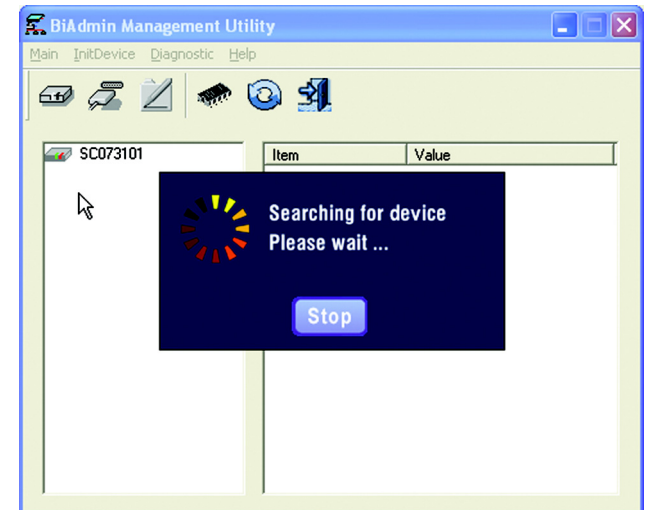

Figure 7-6: Searching for Device
3. The Bi-Admin Management Utility will automatically scan the network for the PrintServer. (See Figure 7-6.)